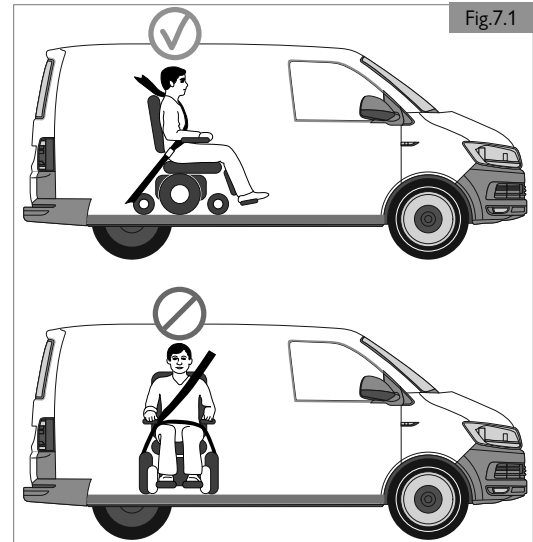

Fig.7.1
- The wheelchair should be secured in a forward facing direction. This wheelchair is approved for use in cars and meets the requirements for forward facing transport and head on collisions. The wheelchair has not been tested for other positions in a vehicle (Fig. 7.1).